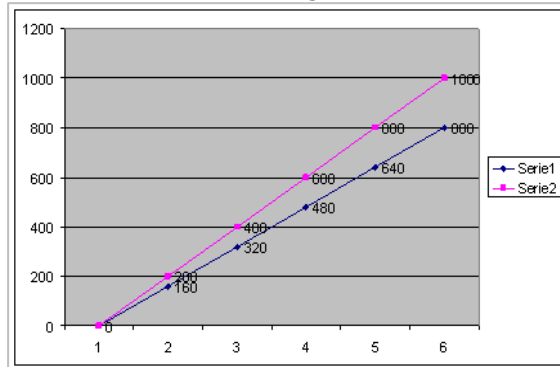

Figure 9 - Raw and calibrated lux values
Both raw values and the resulting calibrated values are shown in Figure 9. The pink line is the raw value (V) from the sensor; the blue line is the wanted value (W) set by the user. The calibration factor is the ratio between the wanted lux value and the raw lux value: $C=W/V$
If the raw value $V=1000$, and the object is updated with 800, then the calibration factor will be: $C=800/1000=0.8$. See the graph in Figure 9.